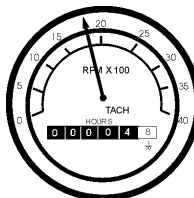

Figure 51. Engine Tachometer Gauge
13. The **tachometer gauge** (Figure 51) will indicate the speed of the engine when the generator is operating. Under normal operating conditions this speed is approximately 1800 RPM's.